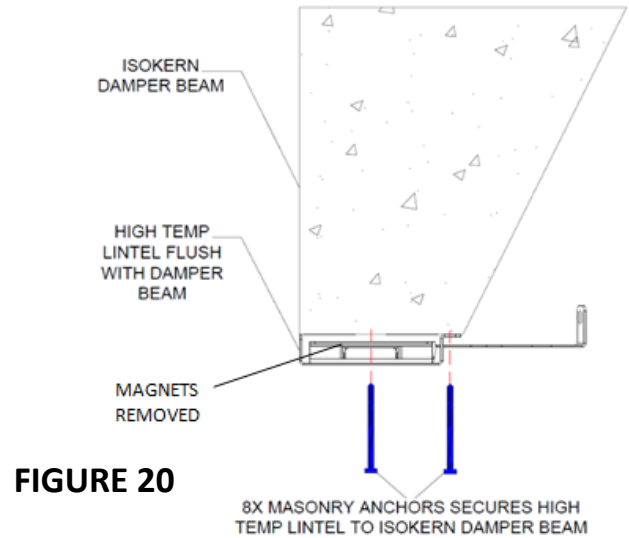

FIGURE 20
- For 48 Maximus Linear models, the NVT-1 high temp lintel has 8 pilot holes for the masonry anchor placement. Attach the high temp lintel flush against the under side of the front damper beam where 8 masonry screws are driven into the underside of the fireplace front damper beam. Do not overtighten **(Figure 20)**